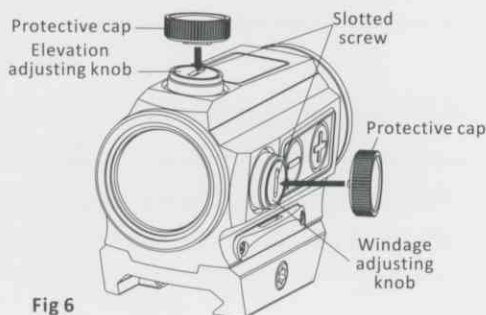

Fig 6
1. On top of sight is the elevation adjusting knob, windage adjusting knob is on the right side (see Fig6). The sight has been primarily adjusted in factory.
2. The Convex platform on the protective cap can be used for zeroing alignment(see Fig6).